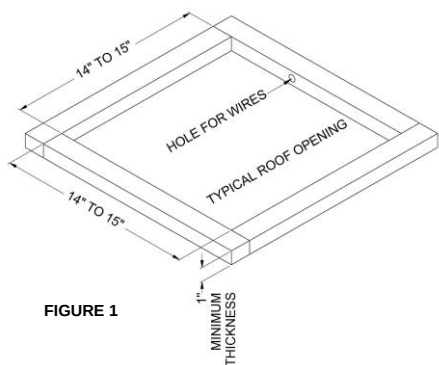

FIGURE 1
3. Examine the roof opening. If the opening is smaller than 14" x 14", the opening must be enlarged. If the opening exceeds 15" x 15", a mounting frame must be field fabricated to reduce the opening size (See Figure 1).
B. If a roof vent opening is not used, a new opening (See Figure 1) will have to be cut into the vehicle roof. A matching opening will also have to be cut into the interior vehicle ceiling. If the ceiling opening is carpeted, snagging could occur. After the opening in the roof and interior ceiling are the correct size, a framed support structure must be provided between the exterior roof top and the interior ceiling. The reinforced frame structure must provide the following:
Airxcel, Inc. requires that the spacing from the vehicle roof top to the interior ceiling be no less than 1". A typical support frame is shown in Figure 1.